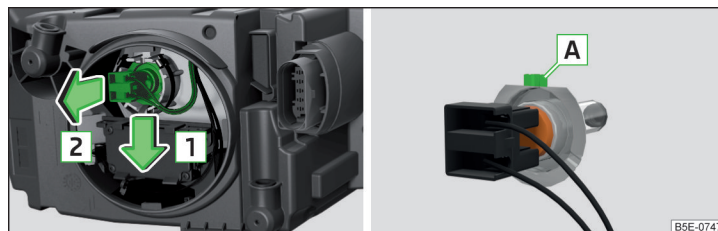

Fig. 349 Changing the bulb for the low beam
- Disconnect the connector with the light bulb in the direction of arrow **1** » Fig. 349.